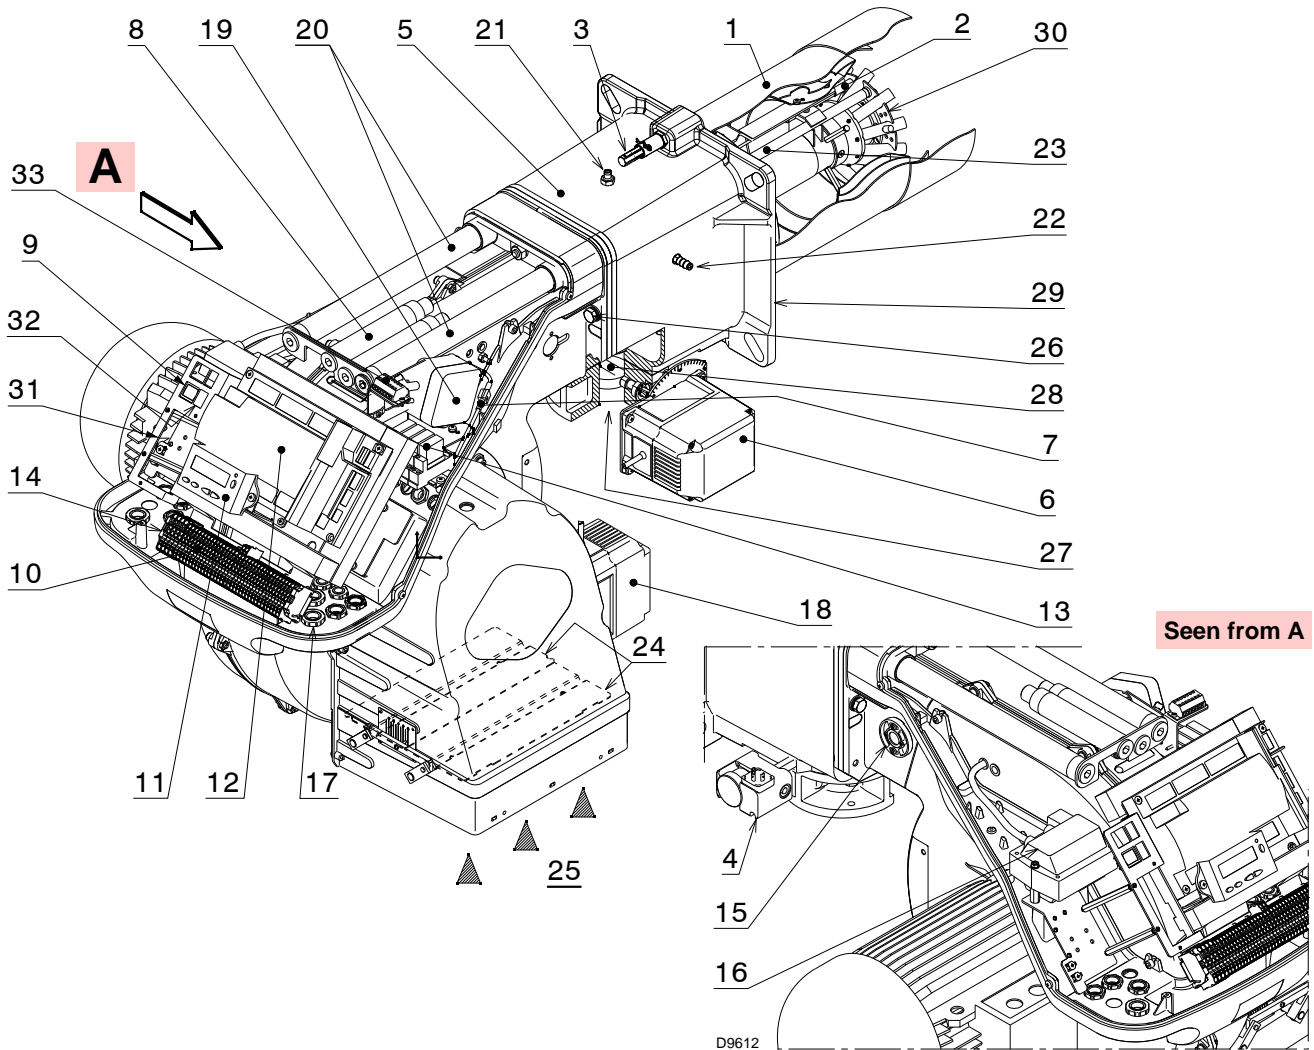

Fig. 5
(1) Reference conditions: Room temperature 20°C - Gas temperature 15°C - Barometric pressure 1013 mbar - Altitude 0m above sea level.
(2) Pressure on the socket 5) (Fig. 5) with zero pressure in the combustion chamber and at maximum burner output.
(3) Noise emission tests carried out as per Directive EN 15036-1, with measurement accuracy $\delta = \pm 1.5$ dB, in the manufacturer's combustion lab with burner operating on test boiler at maximum output.